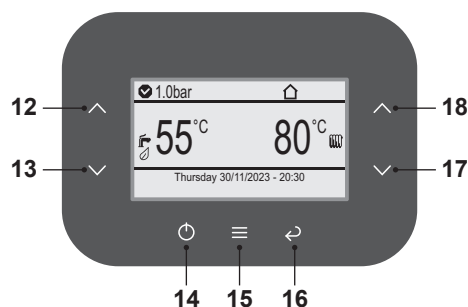

Fig. 8.53
- Press key 15 (Fig. 8.53) to go to the main menu (Fig. 8.54).
- Press key 12 or 13 (Fig. 8.53) to select the desired menu.
- Press key 15 (Fig. 8.53) to access the selected menu.
- Use key 17 or 18 (Fig. 8.53) to change the value of the parameter.
- Press key 15 (Fig. 8.53) to confirm the change or key 16 to exit without changing the value (return to previous level).